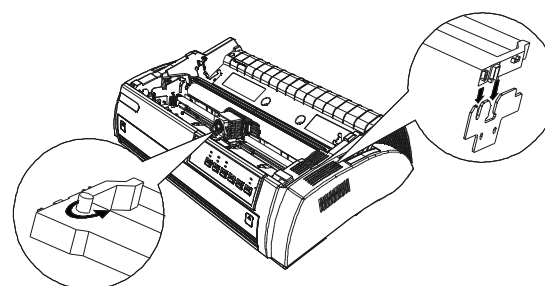

Figure 4
4. Turn the ribbon tension knob according to the direction shown by the arrow on the cartridge. Hold the handle of ribbon cartridge and push the cartridge gently down. Make sure the plastic hook of ribbon cartridge click into the grooves inside the printer as in figure 4.